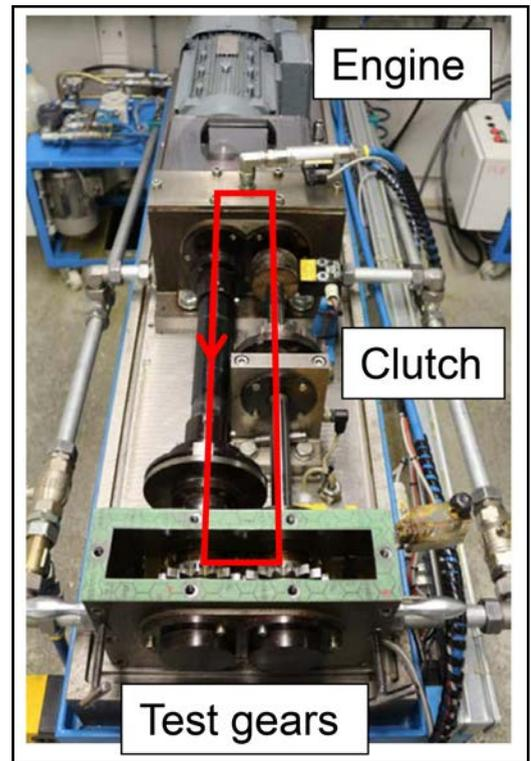

Figure 6 FZG back-to-back test rig.
**Tooth flank (contact) fatigue strength.** The test runs for the determination of surface durability (pitting) were performed on FZG back-to-back gear test rigs, with a center distance of  $a = 91.5$  mm. Figure 6 shows a picture of the test rig with a center distance of 91.5 mm. The test rig is driven by a three-phase, asynchronous engine with a constant speed of 3,000 rpm. Test pinion and test gear are mounted on two parallel shafts that are connected to a drive gear stage with the same gear ratio. The shaft of the test pinion consists of two separate parts which are connected by a load clutch. A defined static torque is applied by twisting the load clutch and using defined weights on the load lever or by twisting the load clutch with a bracing device. The torque can be controlled indirectly at the torque measuring clutch as a twist of the torsion shaft. The engine only has to provide the power loss of the two gearboxes in this closed power loop. For the tests described herein, the pinion was mounted on the torsion shaft and had the same speed as the engine. The load was applied in a way that the pinion was the driving gear and the gear was driven. All test runs were performed with FVA-reference oil FVA3A under oil spray lubrication (approx. 2 l/min into